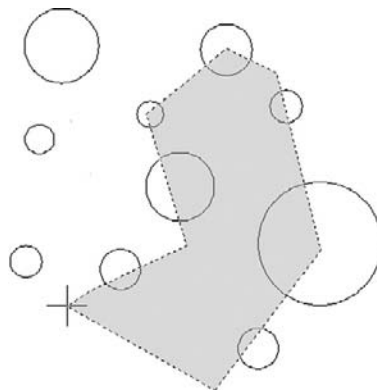

FIGURE 15.41
Step 1. Draw another set of circles, as seen in Figure 15.41, or just undo your previous steps.
As you can see, the Crossing polygon (Figure 15.41) works the same exact way as the Window polygon, except anything it touches gets selected, much like how the regular Crossing operates.